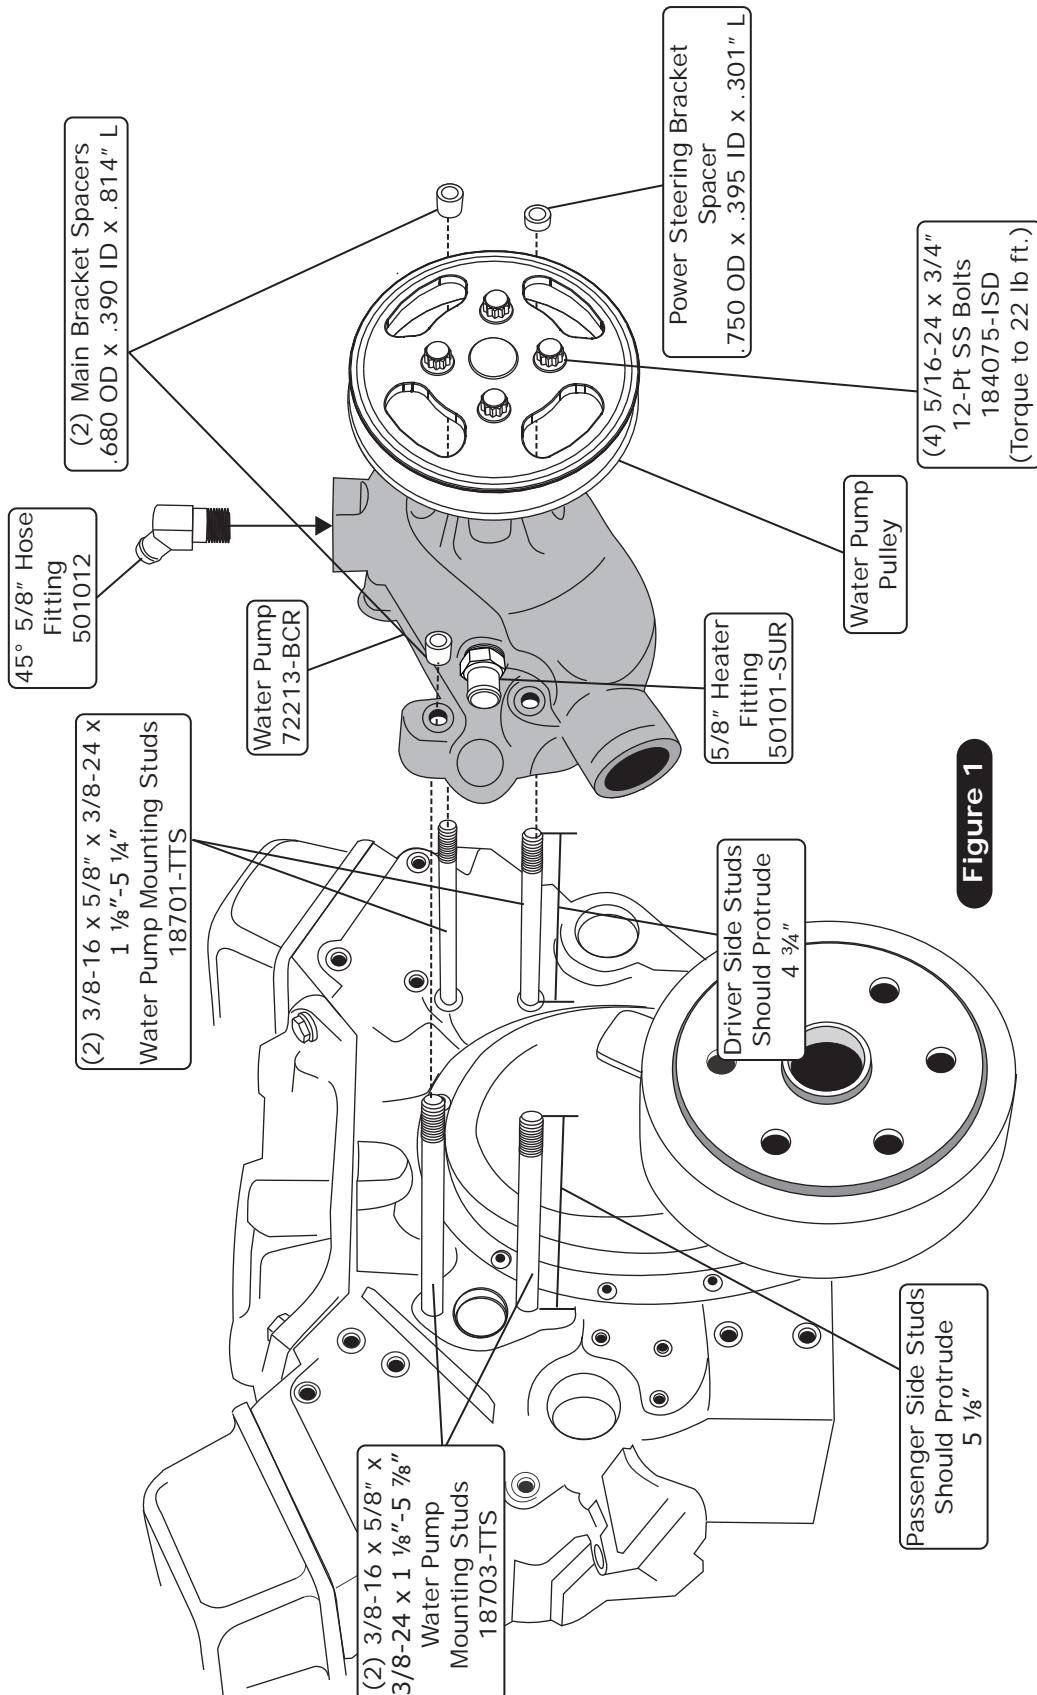

Figure 1
1. Apply a bead of silicone around the 3/8-16 x 5/8" (coarse thread) end of the 3/8-16 x 5/8" x 3/8-24 x 1 1/8" - 5 1/4" & 3/8-16 x 5/8" x 3/8-24 x 1 1/8" - 5 7/8" water pump mounting studs. Thread into the block (See Figure 1, Page 6). **NOTE: The driver side studs should protrude 4 3/4" from the face of the block, and the passenger side studs should protrude 5 1/8" from the face of the block (See Figure 1, Page 6).**
1. Install the water pump pulley onto the water pump using (4) 5/16-24 x 3/4" 12-Pt SS bolts. Torque to 22 lb ft. **NOTE: The pulley is asymmetrical. The side of the pulley stamped with the part number must face toward the water pump.**
2. Install the 45° 5/8" hose fitting on the top outlet of the water pump included in the kit. Use anti-seize on the threads (See Figure 1, Page 6).
3. Install the straight 5/8" hose fitting on the water pump inlet (See Figure 1, Page 6).
5. Install the water pump and spacers onto the mounting studs (See Figure 1, Page 6).